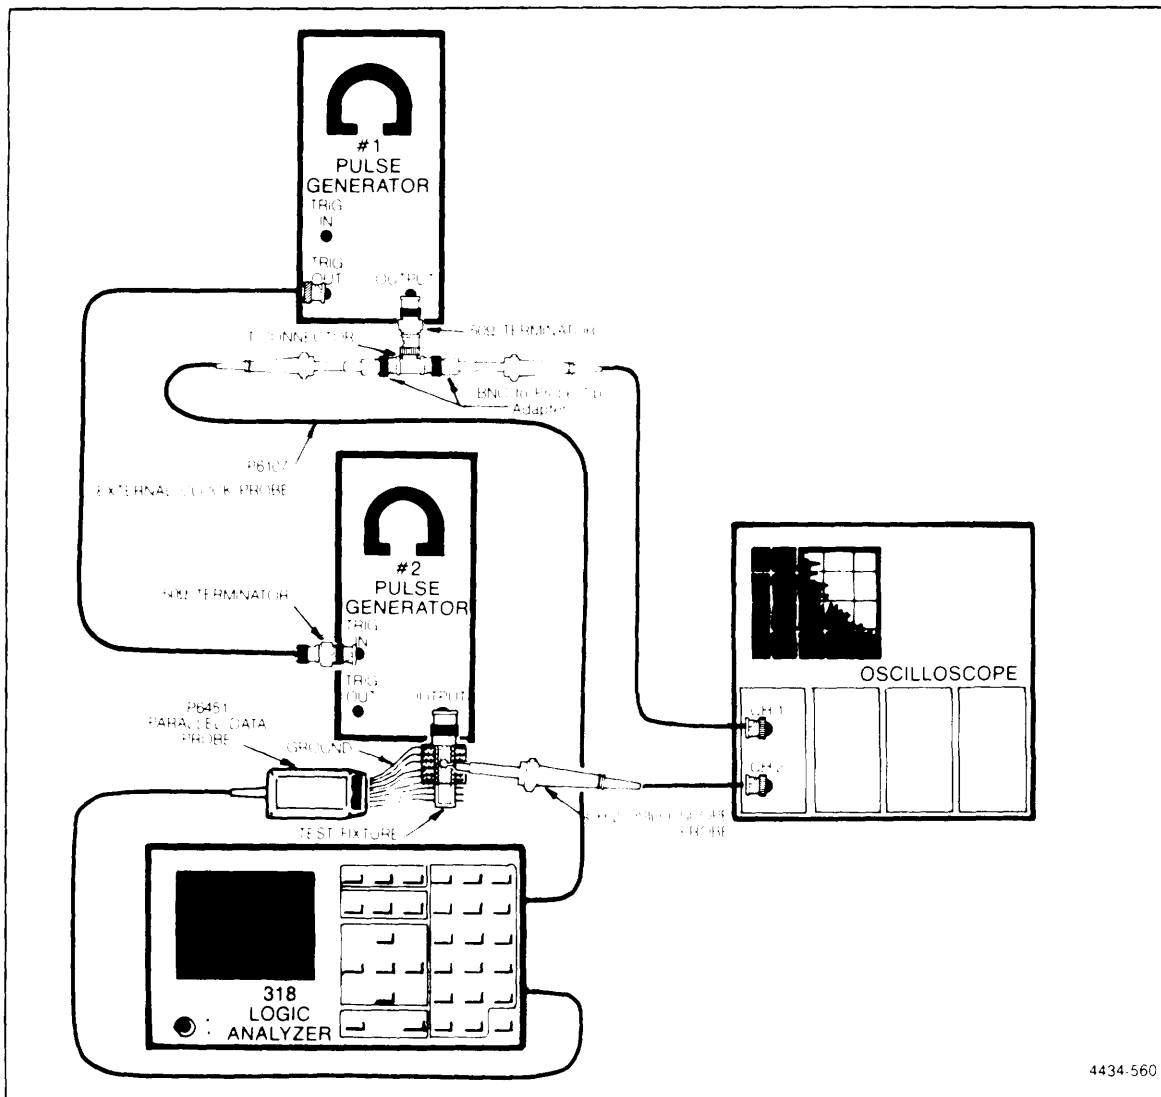

Figure 5-31. 318 Glitch data acquisition test setup.
- a. Refer to Figure 5-31. Connect a 50 Ω terminator to the #1 pulse generator's OUTPUT. Connect a BNC T-connector to the 50 Ω terminator. Connect the P6107 External Clock probe to one side of the BNC T-connector.